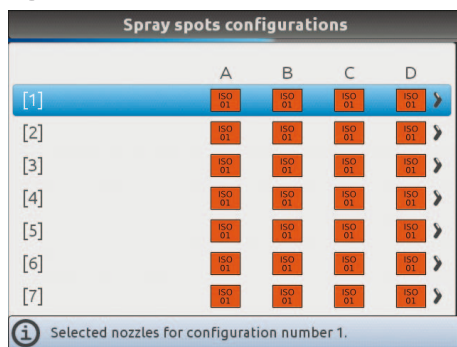

Fig. 67
- Select the configuration you wish to set up (Fig. 67).